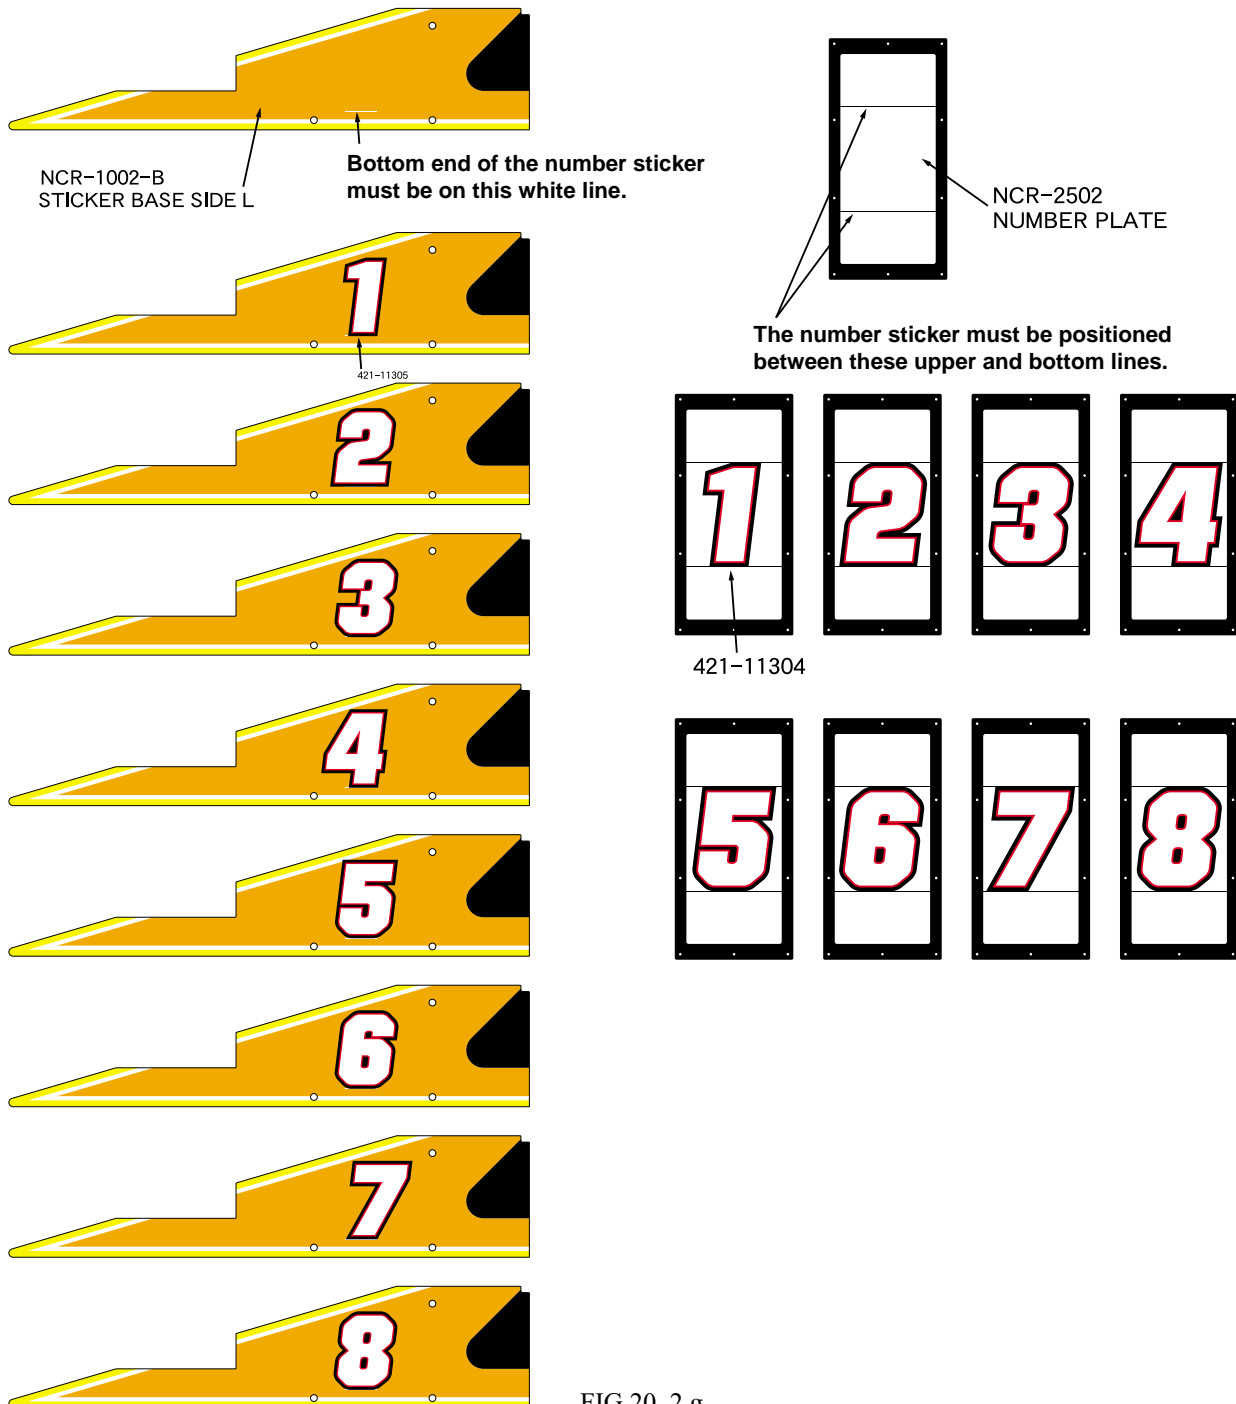

FIG 20. 2 g
- ⑨ Fix the connector box onto the main cabinet. Use the 4 trusshead screws that you removed previously.
- ⑩ Re-couple the main cabinet and the PTV base/PTV/billboard with each other.
- ⑪ Arrange the game machines. See Chapter 7 for the precautions in transportation. Keep a space between the game machines as wide as possible.
- ⑫ Contact the adjusters of all the game machines to the floor. (Sec. 6 3)
- ⑬ Connect the power cords and the grounding cables. (Sec. 6 4)
- ⑭ Put the number stickers on the game machines. Facing the PTV screens, put the stickers '1' '2' '3' ... on the game machines from left to right. (Fig. 20. 2g)